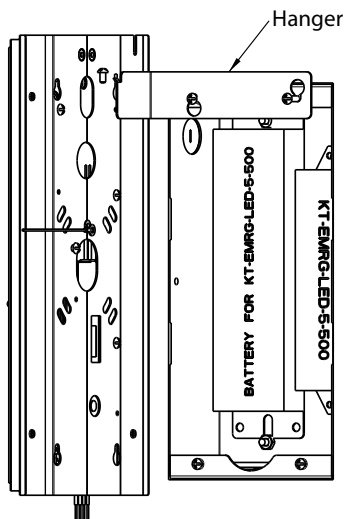

FIG.4
1. Hang **Driver/LED/Wall Plate** assembly on **Hanger** as shown in **Figure 4**.
1. Hang **Driver/LED/Wall Plate** assembly on **Hanger Bracket** as shown in **Figure 4**.